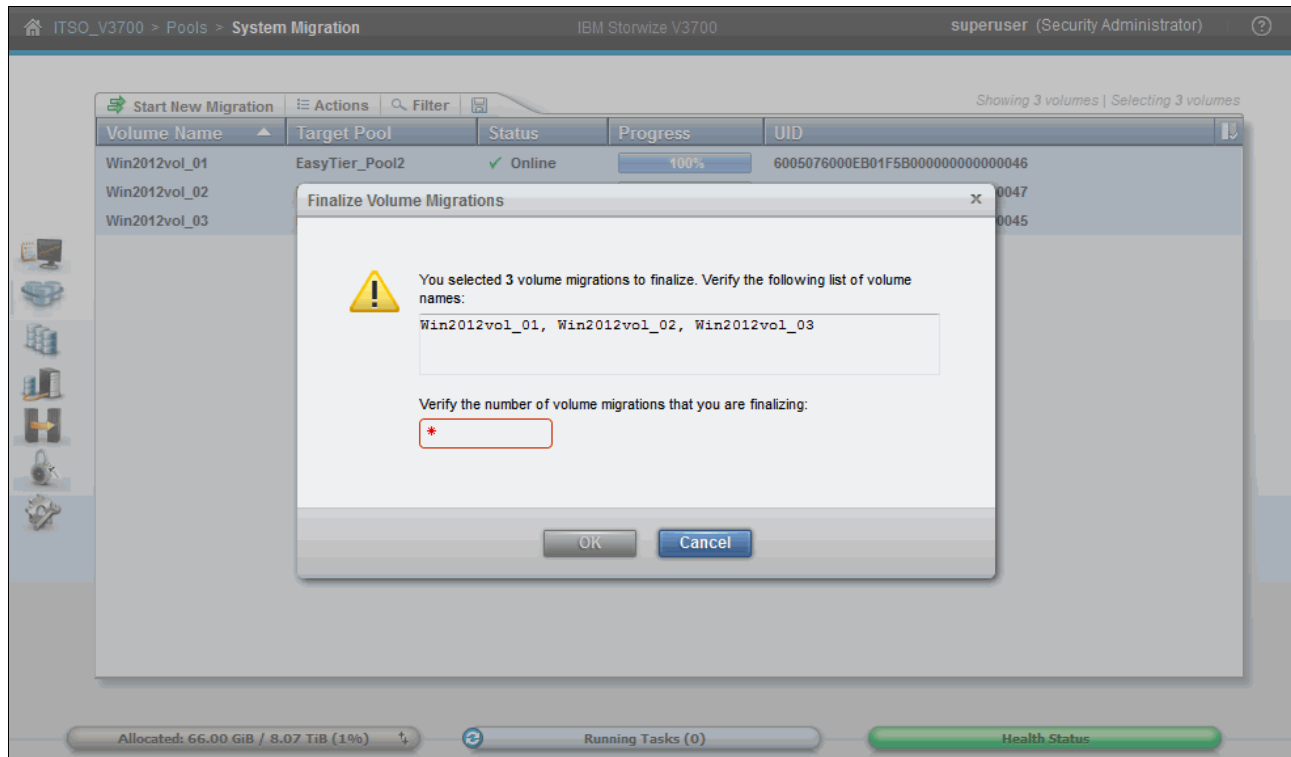

Figure 6-64 Confirm volumes to finalize
3. You are asked to confirm the number of volumes that you want to finalize, as shown in Figure 6-64.